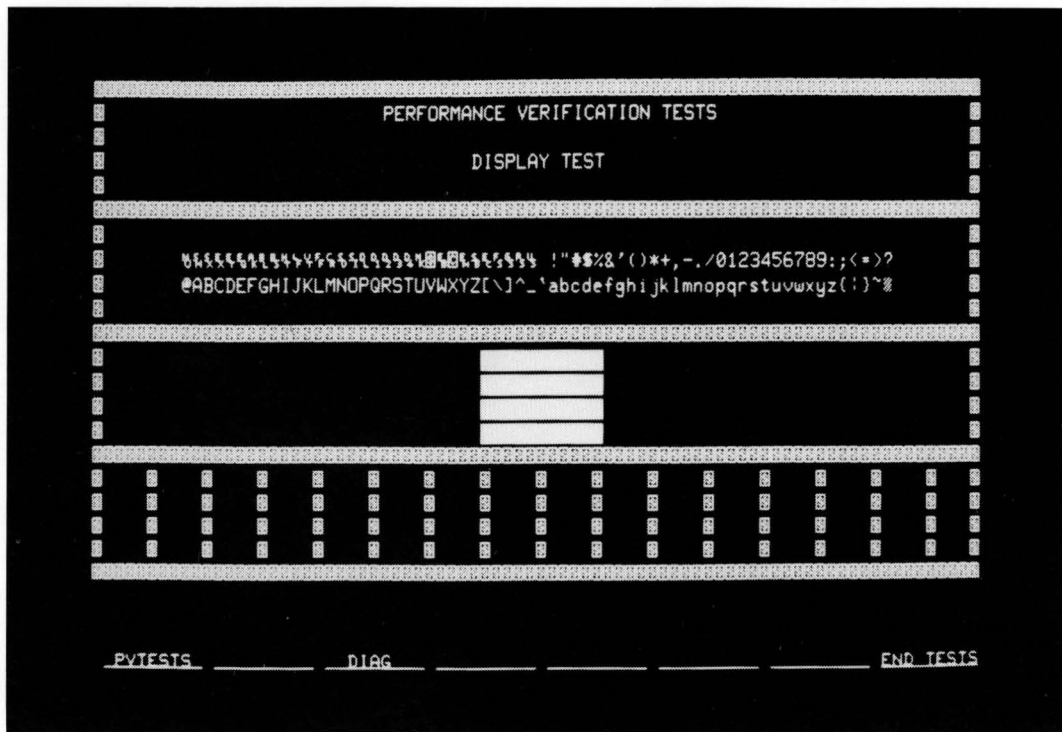

Figure 4-2. Display Test Pattern.
- b. Turn power off and then back on. The display test pattern, figure 4-2, should be on screen after the boot tests. However, there are several steps that occur before the display test pattern is shown.
- b. The performance verification menu (figure 4-2) should be displayed at the bottom of the display test pattern. Press the "PV TESTS" softkey.